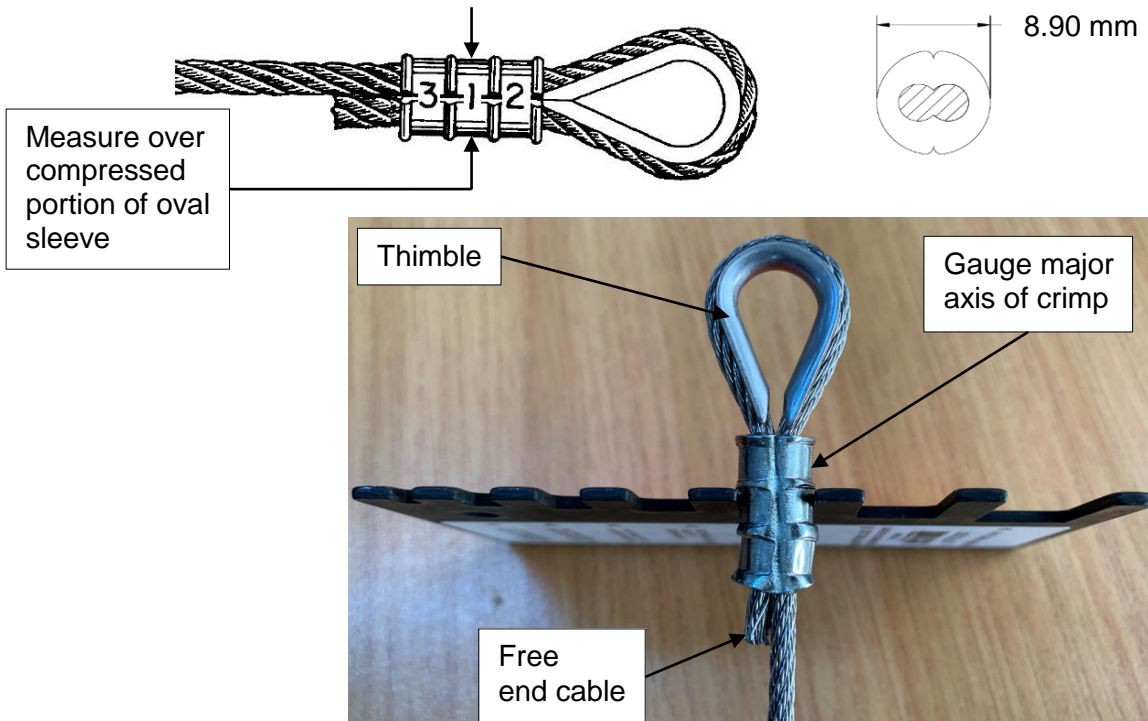
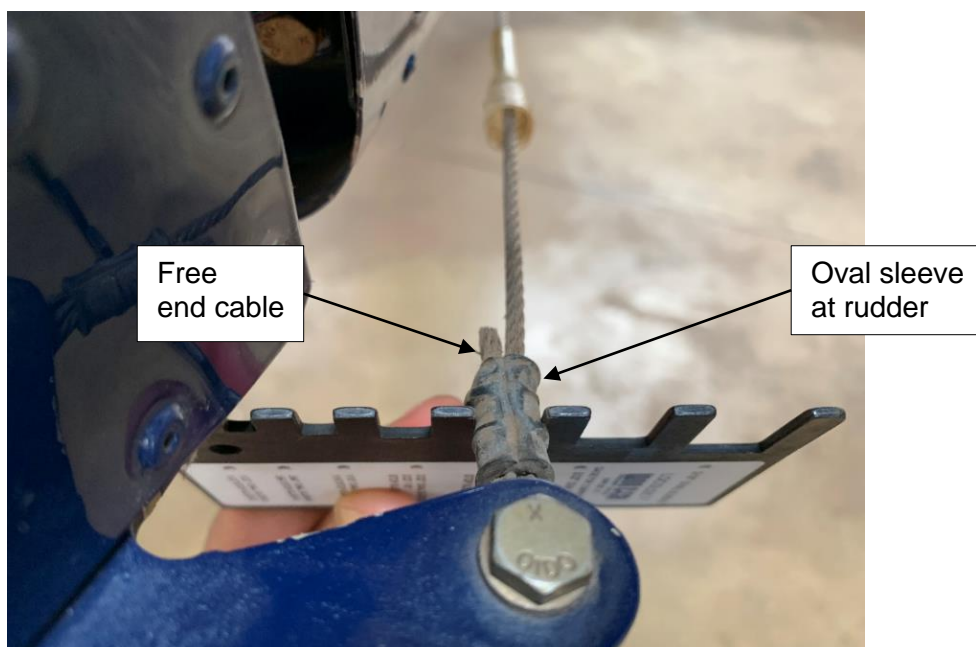

Figure 1 - Gauge the major axis of compressed oval sleeve
Figure 4 – Gauging RH oval sleeves at the rudder with the Lococloc® go-no go sleeve gauge
1. All compressions on the oval sleeve (crimps) must be gauged across their major axis with a Lococloc® go-no go sleeve gauge as shown in Figure 1.
6. Figure 4 shows the inspection of the RH (right hand) oval sleeve at the rudder using the Lococloc® go-no go sleeve gauge and Figure 5 shows the inspection of the RH oval sleeve with the vernier caliper.
8. In addition, ensure that the length of the free end cable (see Figure 1 and Figure 4) is more than 3.0 mm.
13. Slide the 50 mm tubing over the thimble (see thimble in Figure 1). Insert the jaws of a long nose pliers approximately 20 mm into the tubing and expand slightly for easier fitment over the thimble.